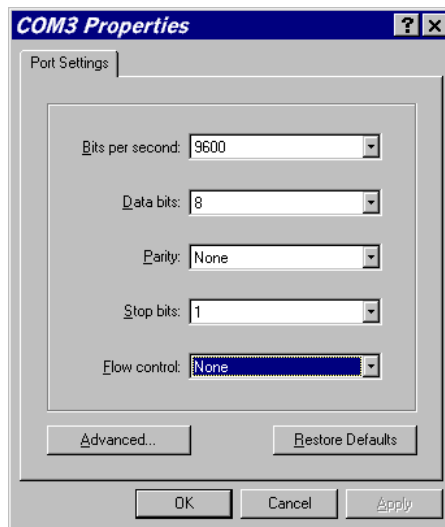

Figure 7-10: Communication Properties
- In the next window, select the following as shown in **Figure 7-10**: Bits per Second: 9600; Data bits: 8; Parity: None; Stop bits: 1; Flow control: none. Click “OK”.